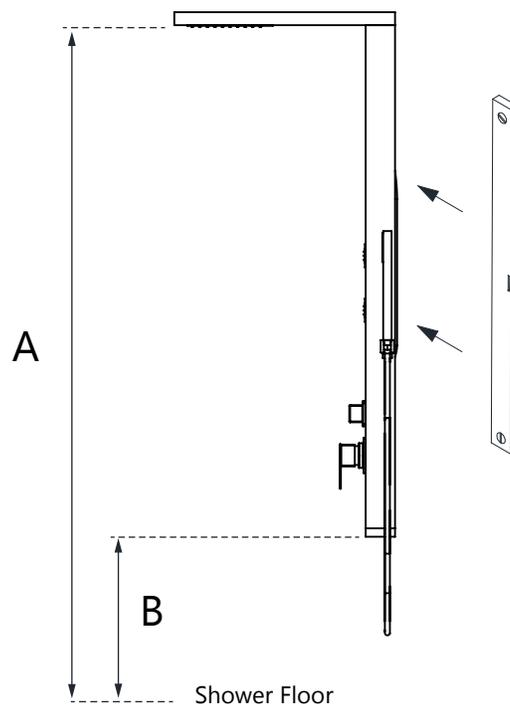

Fig 2
2. Using a helper, place the unit against the shower wall at the desired position (over the two stub-outs) with the showerhead about 12"-18" above average head height **(A)**. Plumb the unit with a level and mark the wall on the side of the unit as well as at the bottom of the unit. Remove the unit from the wall and carefully put it aside. **(B)** Represents the distance from the floor to the bottom of the unit. **(Fig 2)**